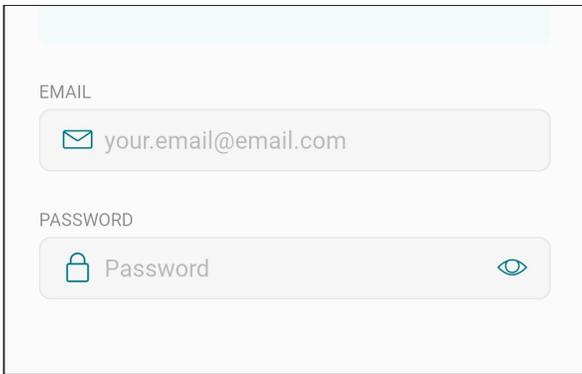

Figure 77. Log in the Raymote Mobile App
- Open the Raymote mobile app and log in with your user name and password. See **Figure 77**.